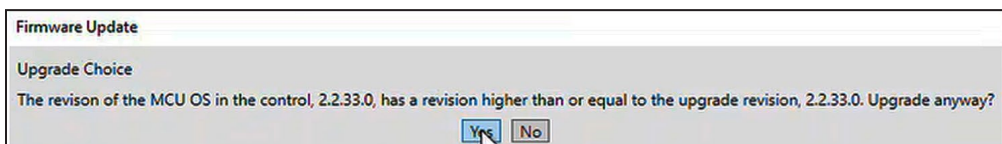

Figure 34. The MCU OS revision dialog box.
STEP 16. The Firmware Update dialog box may ask about the MCU OS revision. Click on the **Yes** button if this dialog box appears. See Figure 34.